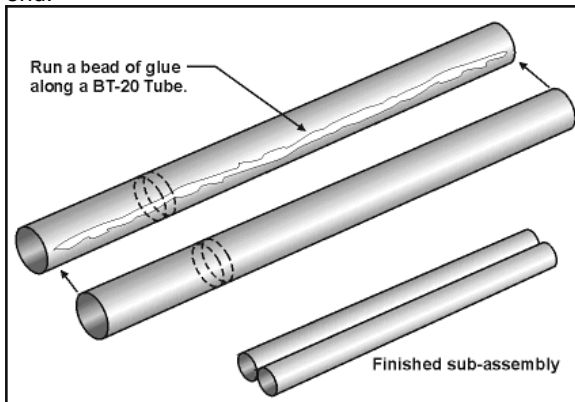

Figure 2
2. Referring to **Figure 2**, run a bead of glue along the full length of one BT-20 Body Tube. Take a second tube and, with both tubes laying on a smooth, flat surface, glue them together. **NOTE:** Make sure that the ends are flush with each other and that the Engine Blocks are at the same end.